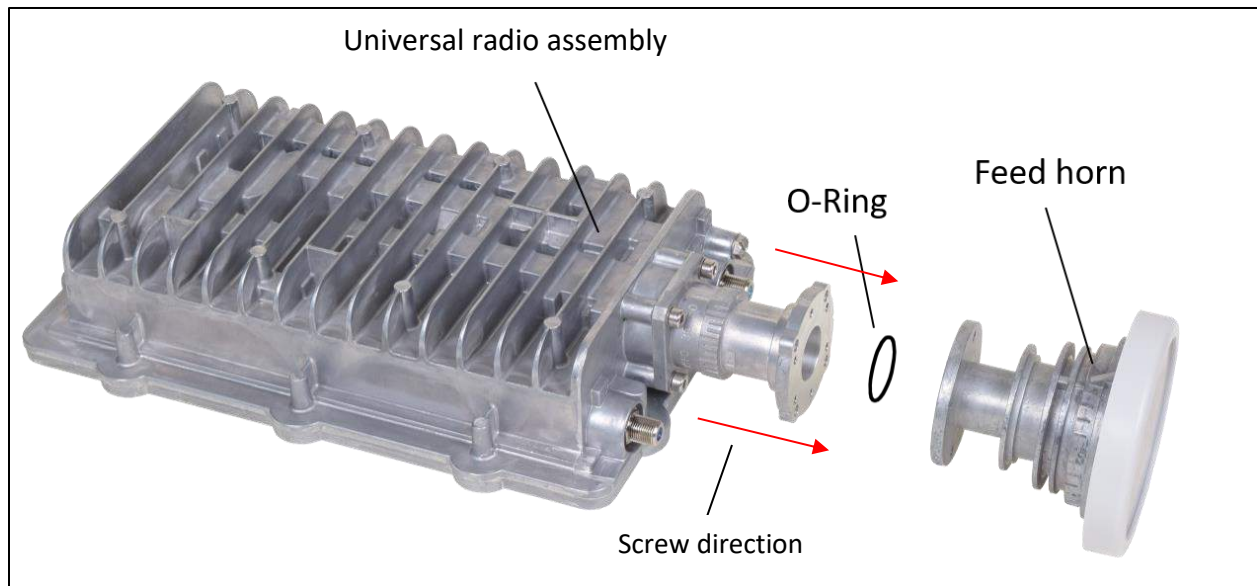

Figure 19: Attaching the feedhorn and radio assembly
You must use the hardware kit indicated in Table 1 for the feed horn. To attach the feedhorn to the radio assembly, refer to Figure 19 and follow the steps below:
2. Insert the four socket-head cap screws through the back of the flange on the radio assembly and into the small end of the feedhorn as shown in Figure 19.